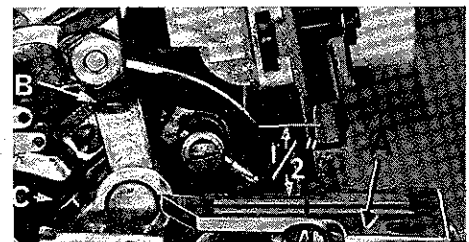

Fig. 3
With throat plate assembled in position, needle should center in the front end of needle slot. When needle is at high position, needle point should be set $1/2$ inch above throat plate (A, Fig. 3). To align needle or set the height above the throat plate, move needle driving arm (B, Fig. 3) by loosening clamp screw (C). After needle has been properly set tighten clamp screw (C) and remove throat plate.